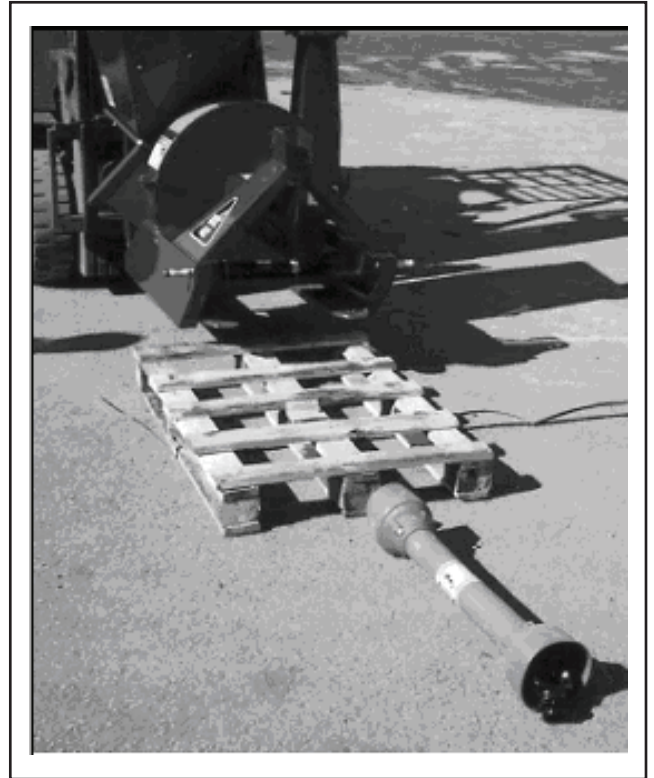

Fig. 5
8. Remove pallet and place machine on the ground. (Fig. 5)